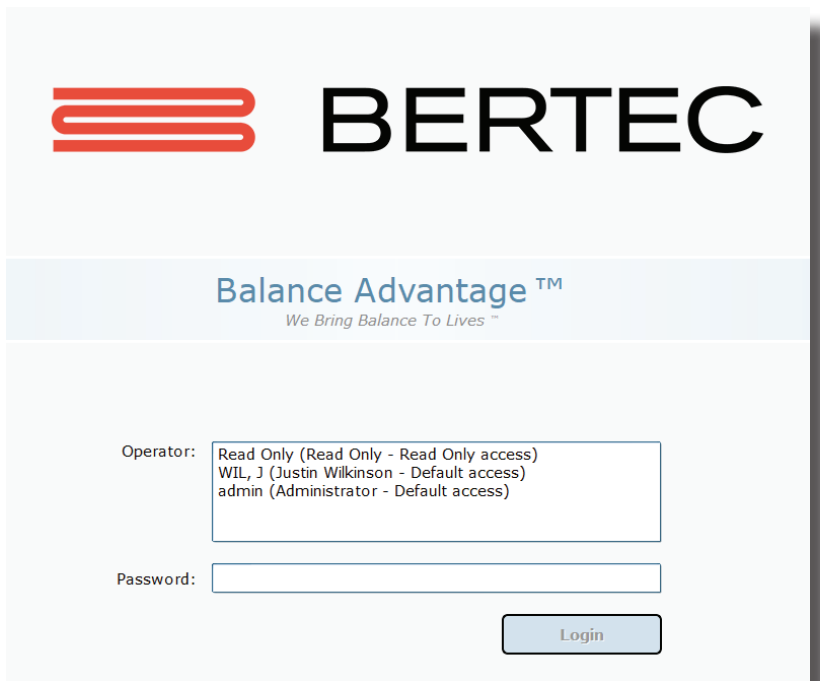

Figure 12: Software Login Screen.
6. Open Bertec® Balance Advantage®. Arrive at the login screen, shown in Figure 12.